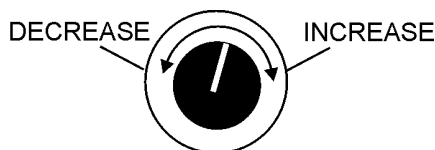

Figure 28. Voltage Regulator Knob (139V/240V)
3. Turn the voltage regulator knob (Figure 28) clockwise to increase voltage output, turn counterclockwise to decrease voltage output.